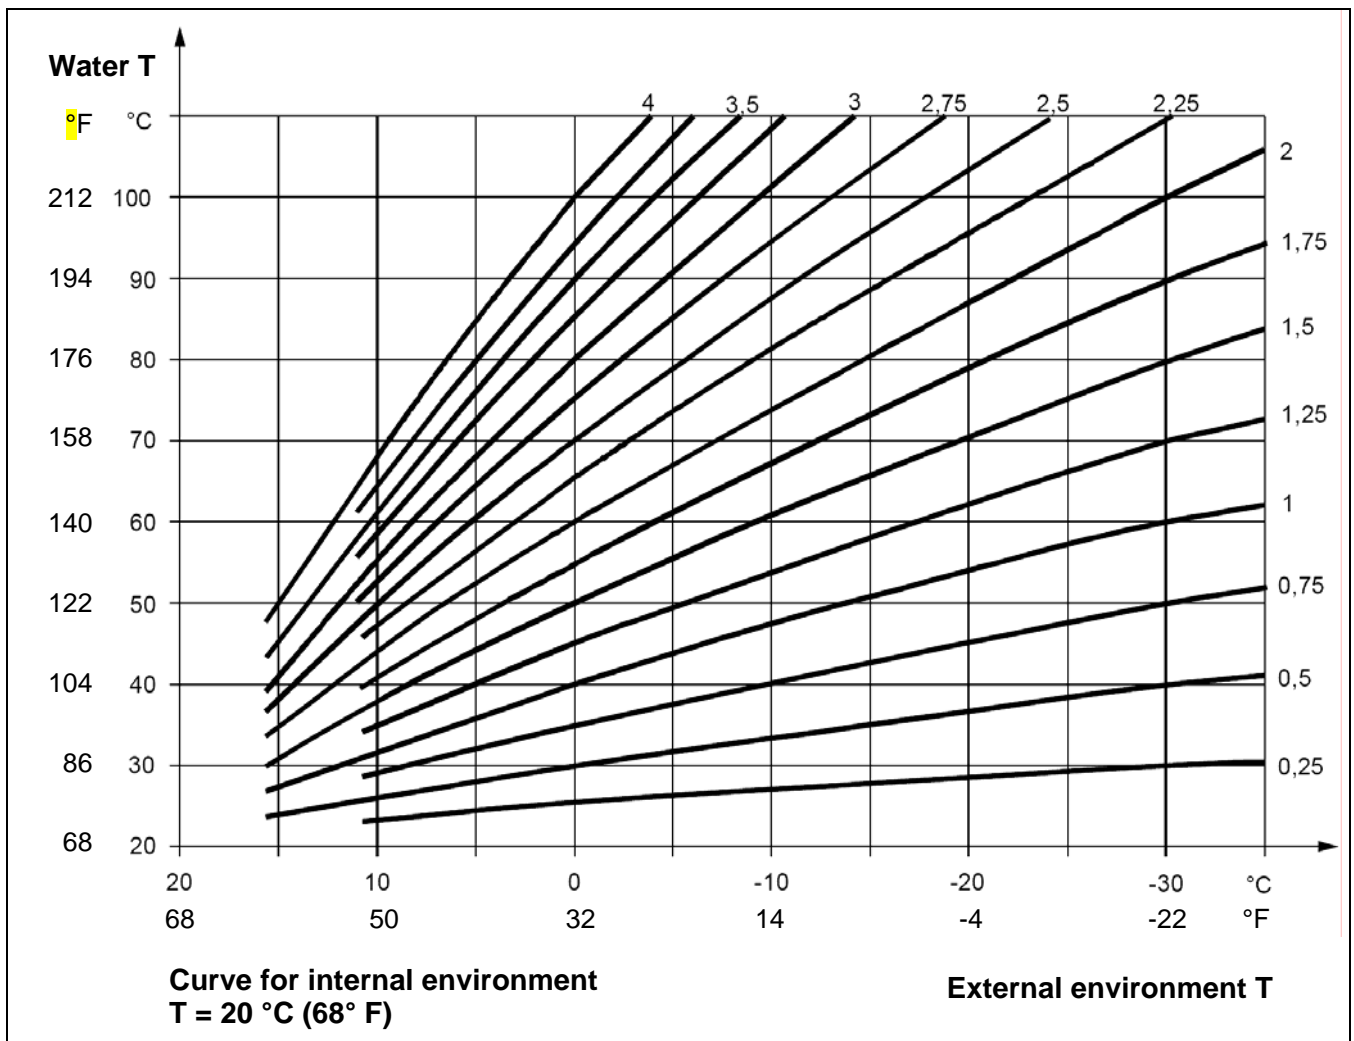

Figure 22 —GRAPHICS OF THE "HEATING CURVES"
Regarding heating, the family of climatic curves is indicated in Figure 22 and the choice of the curve to use is made by specifying the value of a parameter that indicates the slope of the curve. The curve defined in this way refers to an internal environment set-point temperature of 20 °C (68 °F) . If the set-point temperature is different, the system automatically adapts the curve used.
- Using the Figure 22 graphics, select the curve that satisfies the requisite of the previous point; for the example in the previous point, see Figure 23.